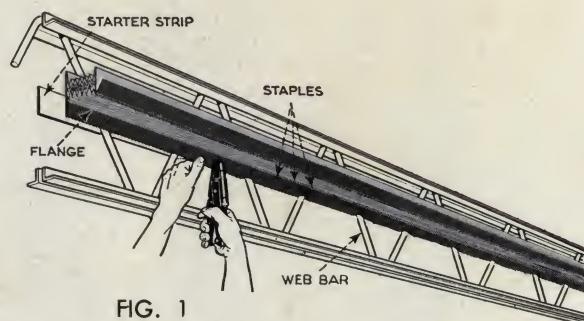

FIG. 1
(A) Place a strip of Infra Insulation on the *inner* side of the first bar joist, without opening the insulation except for one *flange* opened and pointing down, with **BOTTOM** side and **MASS** facing **OUT**. Staple that one flange to an Infra card-board or asbestos starter strip placed on the outer side of the same first bar joist. *See Fig. 1.* (Be sure that the bottom surface of the insulation will be at the same level as where the bridging cross each other. This can usually be done by placing the top of the *flange* midway in the depth of the joist.) Staple *closely* to both sides of each web bar and also between web bars. This will keep the insulation permanently mounted in place with a minimum of openings. Use  $\frac{3}{8}$ " staples when attaching to starter strips. ( $\frac{1}{4}$ " staples are long enough for attaching flange to flange.)